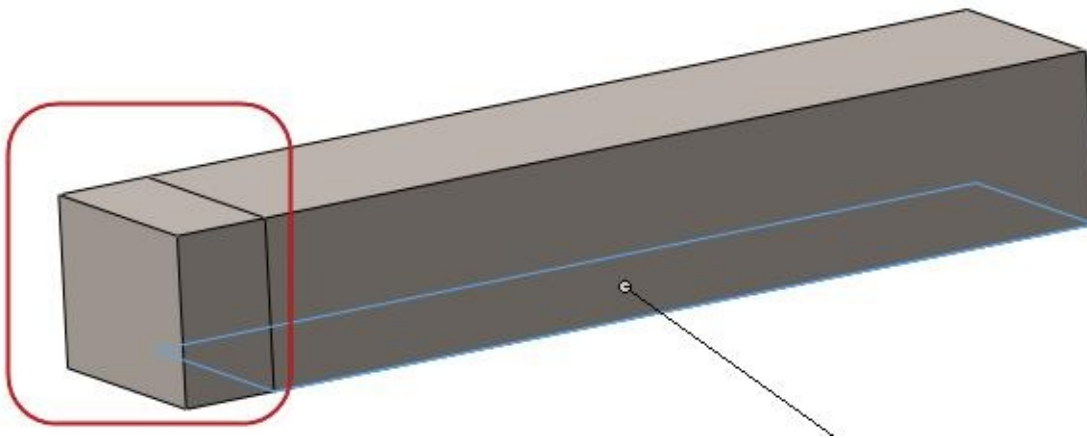

Figure-16. Faces after splitting
- Click on the **Create Split** button from the **Selection** rollout of the **PropertyManager**. The selected faces will get split; refer to Figure-16.